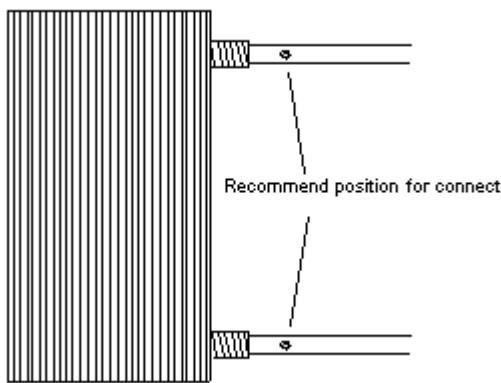

Fig 5 Position for Measurement
It is very important for the install position of switch. Suitable position is of advantage to the accuracy of DP Switch. The connector should be close with the Water Inlet of Heater Exchanger or Pump or Water Filter, making the Water Input as the position of measure pressure. As Fig 5.
- 1、 Drill in the pipeline, joint 1/4" SAE connector, As Fig 5.